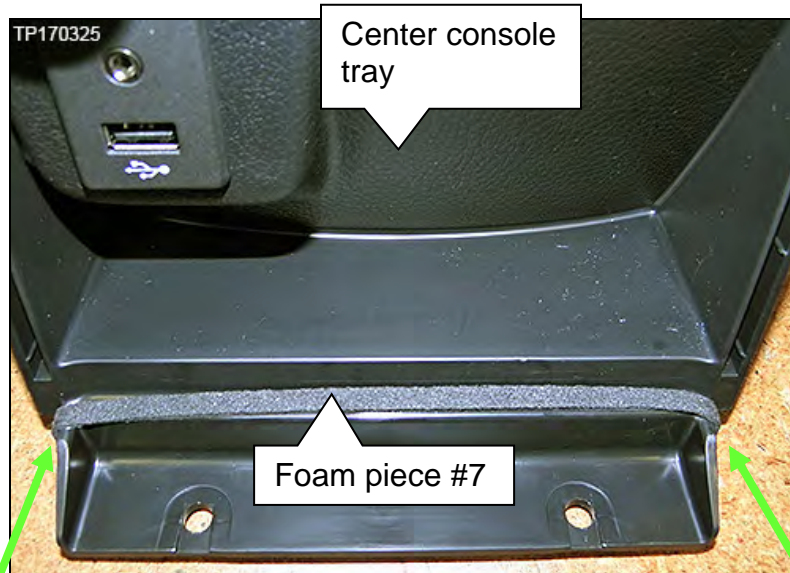

Figure 2C
1. Attach one (1) foam piece (foam piece #7) to the center console tray where shown in Figure 2C as follows:
- e. Finish with the opposite end of foam piece #7 flush with the opposite edge of the center console tray as shown in Figure 2C.